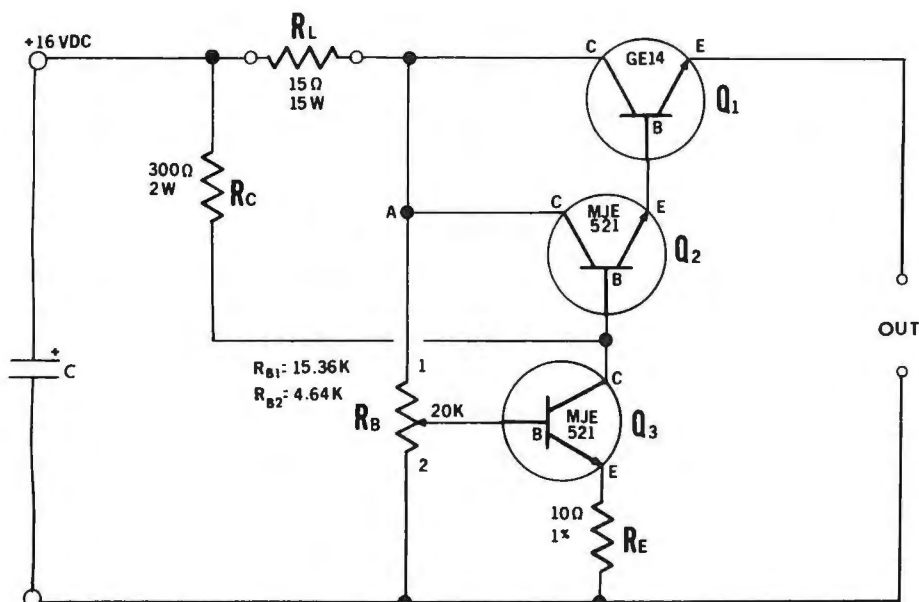
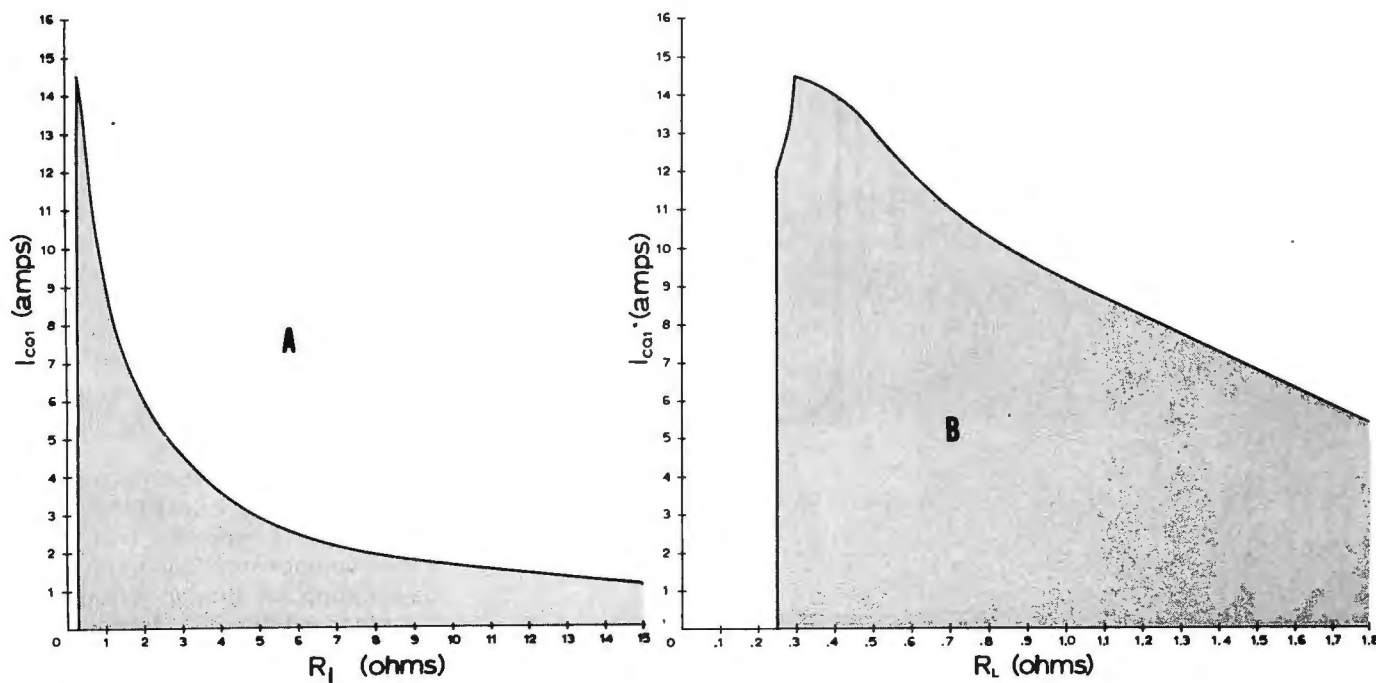

Fig. 6. A self-resetting current limiter with short-circuit protection.
Fig. 7. In (A) load varies from 15 to 0 ohms; (B) load approaches zero.
**A Current Limiter.** The self-resetting circuit shown in Fig. 6 lacks some of the advantages of the previous circuits. Transistor  $Q1$  is again in series with the load, while  $Q2$  supplies sufficient base current to keep it operating in the saturation region for a significant range of loads.
The graphs shown in Fig. 7 are plots of  $I_{C(Q1)}$  versus  $R_L$  for the circuit shown in Fig. 6. From plot A, it can be seen that as  $R_L$  is decreased (increased load), the current through  $Q1$  increases to a maximum of 14.5 A when  $R_L$  is 0.3 ohm. Decreasing  $R_L$  further yields a reduction in  $I_{C(Q1)}$  instead of an increase. This  $I_{C(Q1)}$  decrease with increasing load continues until  $R_L$  is 0.25 ohm, at which point the circuit becomes unstable. When a load of 0.25 ohm is connected to the supply's output,  $I_{C(Q1)}$  momentarily goes to 12 A, after which  $Q1$  turns off and  $I_{C(Q1)}$  reduces to zero. For load resistances less than 0.25 ohms,  $Q1$  is in the cutoff region and  $I_{C(Q1)}$  is zero.
Remove the ammeter from the supply and connect the base of Q3 as shown in Fig. 6. The decade box in the emitter leg of Q3 should still be set to zero. Short the supply's output terminals;  $I_{C(Q1)}$  should drop to zero. If the current through the collector of Q1 doesn't drop to zero,  $I_{B(Q3)}$  or  $R_E$  has not been set to zero. Remove the short from across the supply's output, leaving only the 15-ohm load. The collector current of Q1 should remain at zero; if it doesn't and the circuit self-resets, no  $R_E$  is needed. (This is not likely to occur.) With no self-reset, increase  $R_E$  in 1-ohm steps until  $I_{C(Q1)}$  goes back to 1 A. Short the output of the supply again;  $I_{C(Q1)}$  should go to zero and the circuit should restart when the short is removed.
The capacitor shown across the input of the circuit in Fig. 6 is not part of the protection system. It is simply representative of the filter capacitor in the power supply. Under normal conditions, Q2 supplies the base current to Q1. Both Q1 and Q2 operate in the saturation region to assure that full power is delivered to the load. The A section of Table I shows the measured and calculated parameters for Q1, Q2, and Q3 for the 15-ohm load,  $R_L$ .